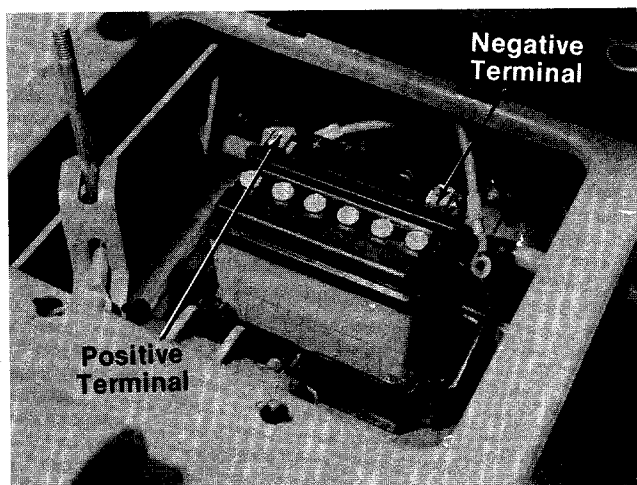

FIGURE 14.
6. Place the battery in the rider so that the positive terminal is towards the left side of the unit. See figure 14.